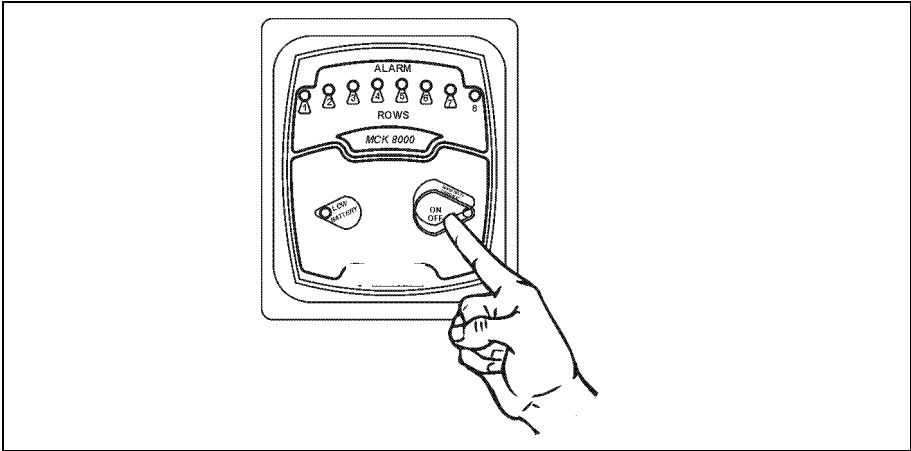

Figure 8.
- with the Monitor **SWITCHED OFF** press and hold the <ON/OFF> key for about <5> seconds (Figure 8), until you here a short sound signal; you can now release the key and the row LEDs will display the programmed sensitivity.